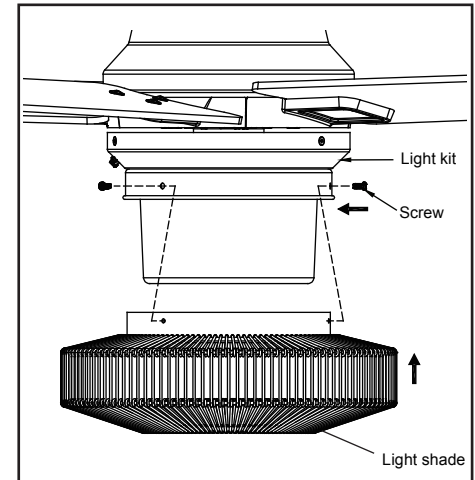

Figure 17
5. Place the light shade into the light kit by aligning the three screw holes in the light kit shade with the screw holes in the light kit. Secure with the light shade attachment screws provided. (Figure 17)